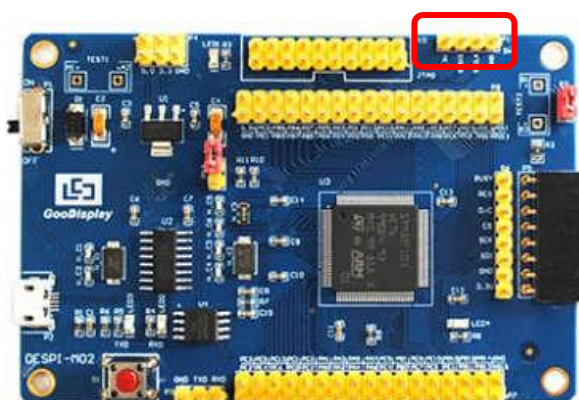

Figure 16 : SWD interface
- 1) As shown in figure 16, DESPI-M02 has a 4-wire SWD interface, which can be connected to the simulator interface by 4 wires and then connect the simulator to the computer.